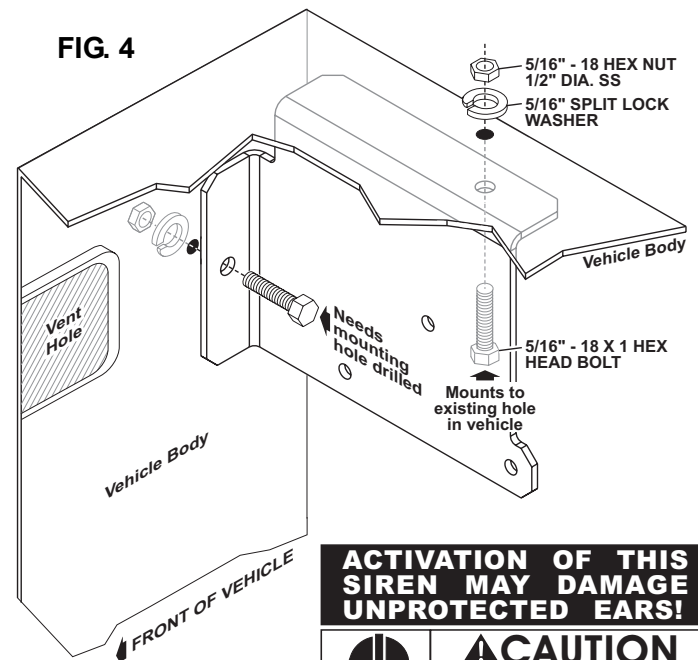

FIG. 4
3. The upper mounting bolt will use an existing hole in the vehicle, while the side mounting bolt will require a 3/8" mounting hole to be drilled. Secure the bracket using the upper mounting hole and the hardware provided as shown in Fig. 4.